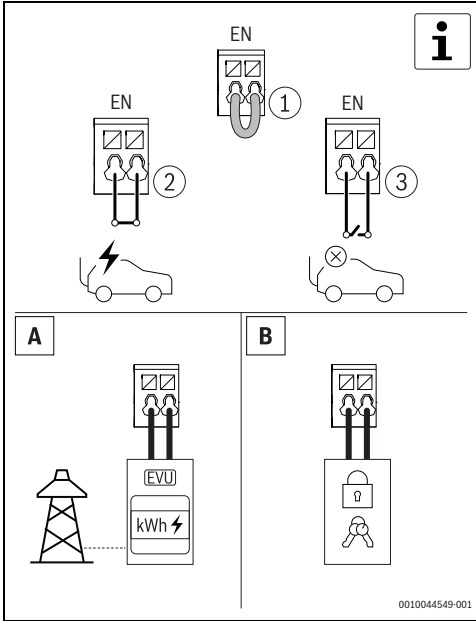

Fig. 47 Optional digital input
- ▶ Unlock the Power Charge 7000i with the RFID card, the app, or via the external blocking device. This step is optional (→ Fig. 47 and 6.1.5, page 45).